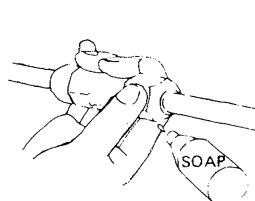

Fig. 36
- f) Leak test the joints with liquid soap. Fig. 36